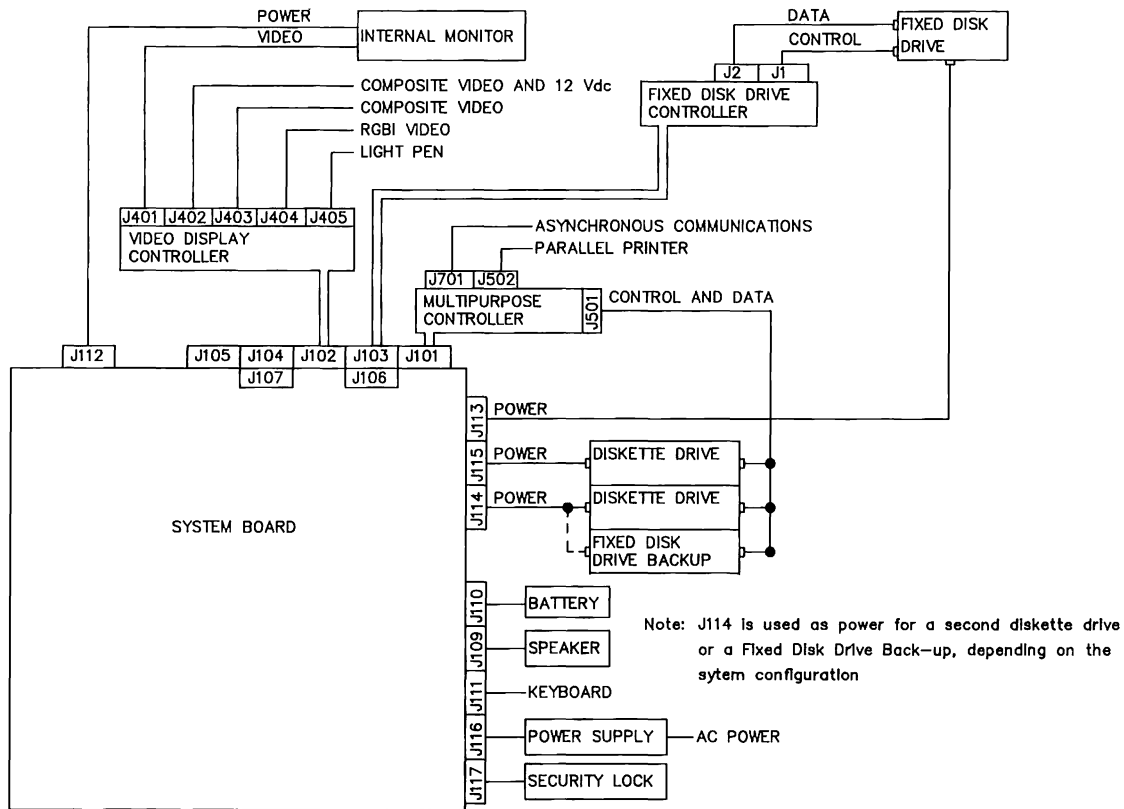

Figure 1-5. COMPAQ PORTABLE 286 Interconnection Diagram
- COMPAQ PORTABLE 286 Personal Computer - Figure 1-5